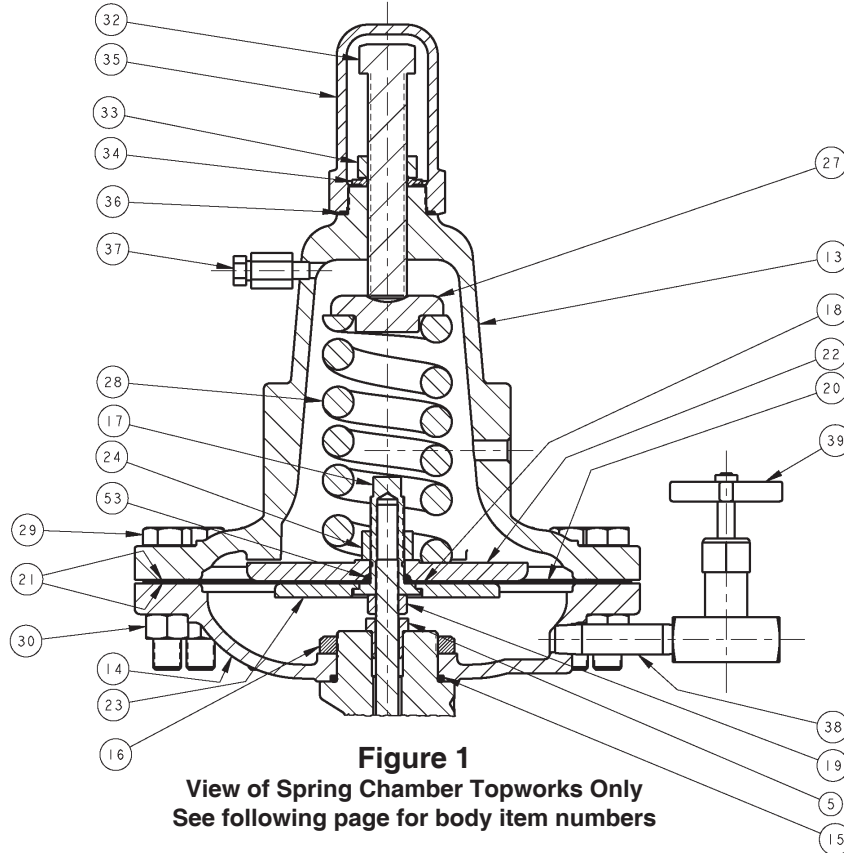

Figure 1
12. Fully thread stem lock nut (19) and pusher plate (17) on end of stem (58). Refer to Figure 1 or 2 for correct orientation of the pusher plate (17).
13. Calibrate valve plug assembly (12) setting as follows:
- a) Lift and hold valve plug assembly (12) up tight against the seats (10 and 11).
- b) Adjust the pusher plate (17) so that the gasket surface face of the pusher plate (17) is 1/2 rotation below the case flange surface.